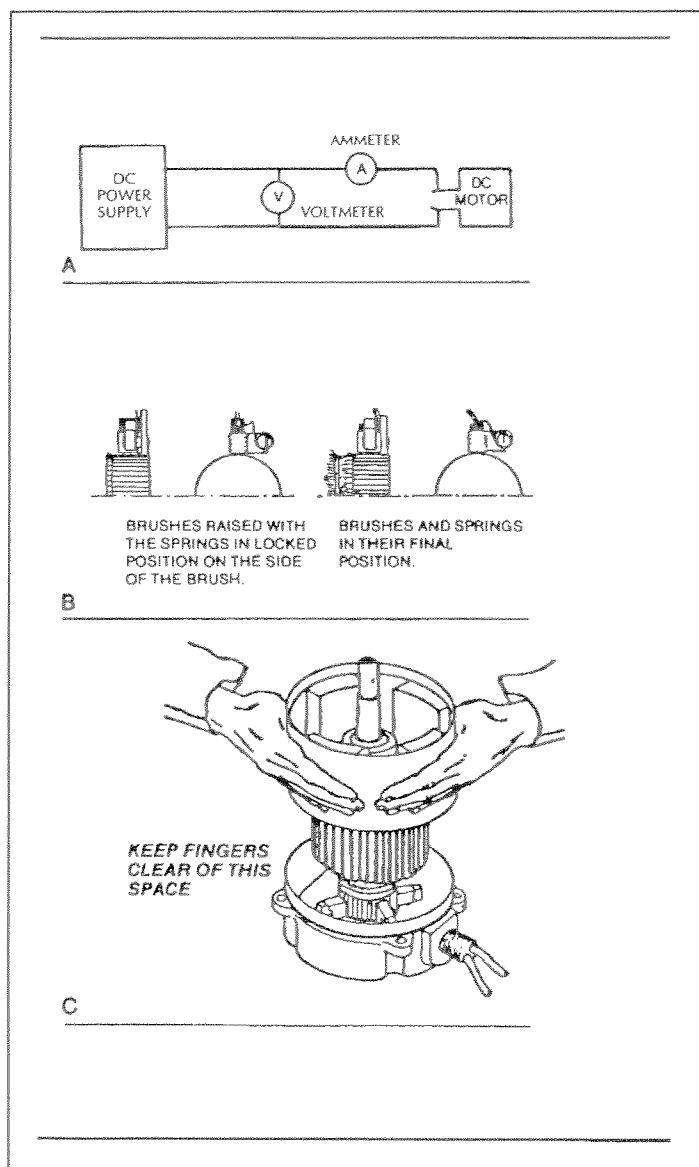

Figure 3-18: Electric Motor Service
3.13 Electric Motor (Figure 3-18)